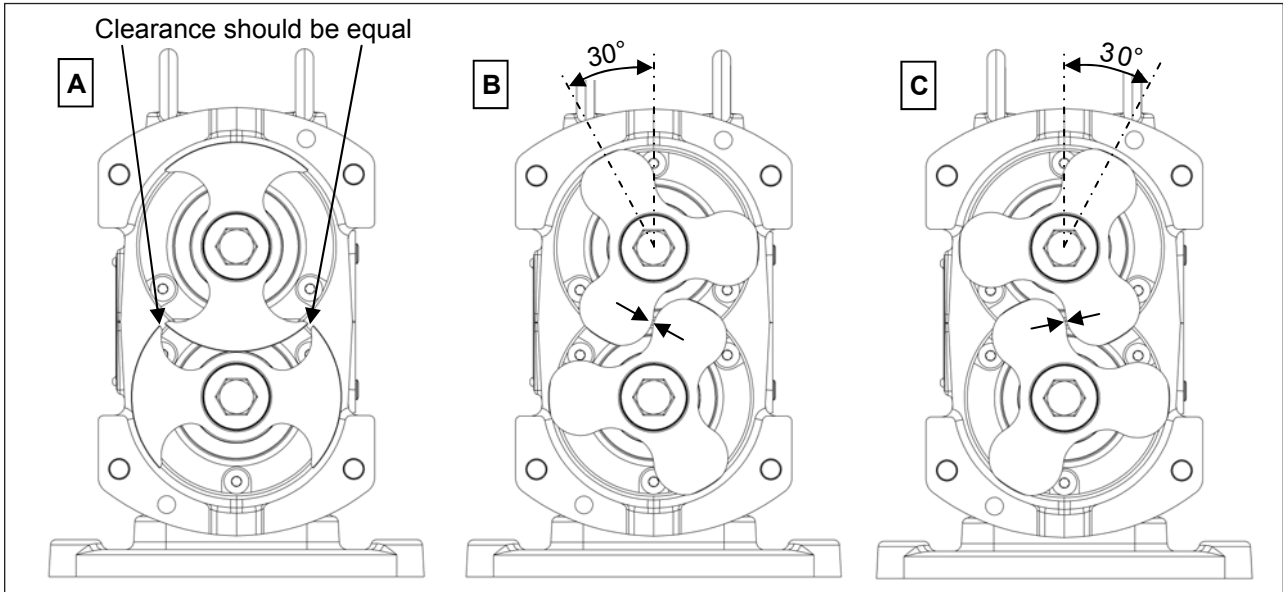

Figure 40. Checking Rotor Timing
**Disassembly:** The mechanical seal with flush option is shown in *Figure 40*. Remove the mechanical seals and o-rings from the rotor and body. Remove the retaining bolts using the appropriate driver and slide the retaining plate, lip seal, and mechanical seal base out of the body. Check the lip seal for damage around the lip and
replace if damaged. Slide the ceramic flush sleeve from the shaft and inspect for damage. Do not re-use sleeves that are damaged (sleeve surface grooved or scratched). Remove the o-rings from all components (*Figure 40, items 3, 5, 8, 9, 11*). If damaged, replace o-rings.